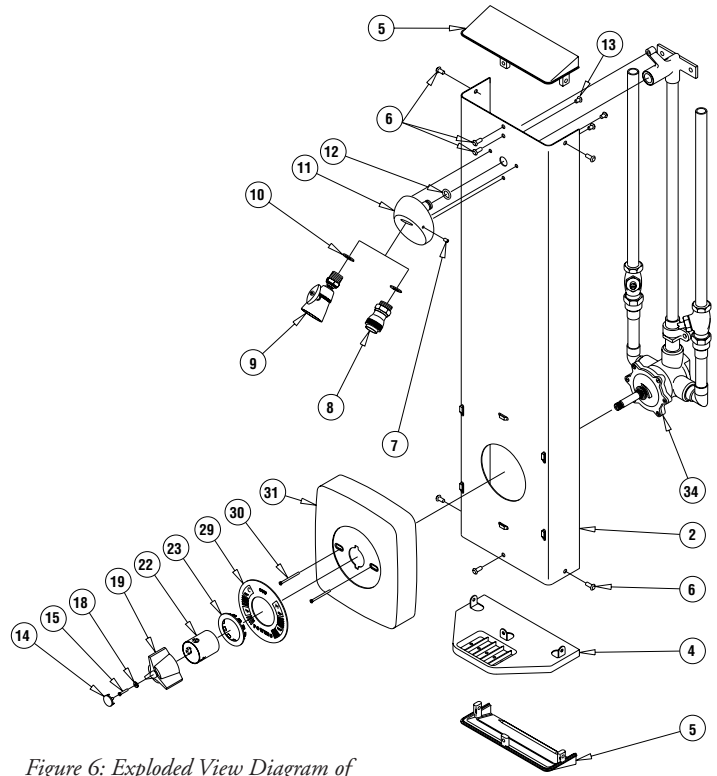

Figure 6: Exploded View Diagram of Hydropanel II Series 450-4200 Shower Unit.
22. (Figure 6) Place the graphic insert into the cover plate, snap the retaining ring into place in the valve hole and slide the brass collar over the stem.